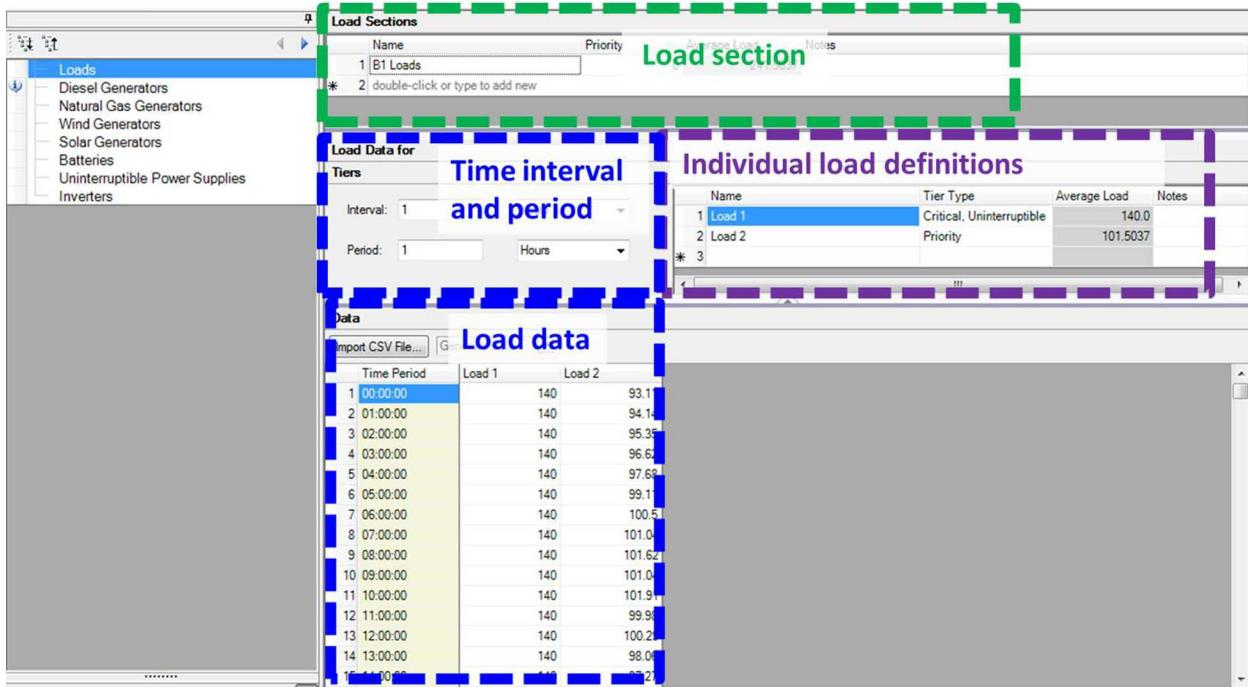

Figure 31. Load section page overview.
#### Load Section (highlighted in green in Figure 31)
- **Individual loads** (highlighted in purple in Figure 31)
- **Load Data** (highlighted in blue in Figure 31)
- *Data* (highlighted in blue in Figure 31)